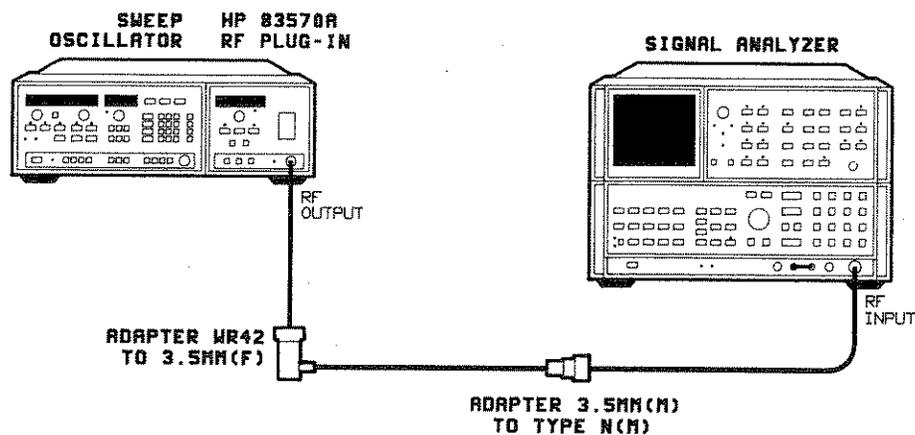

Figure 4-5A. Residual FM Test Setup
- 1A. Connect the equipment as shown in Figure 4-5A.